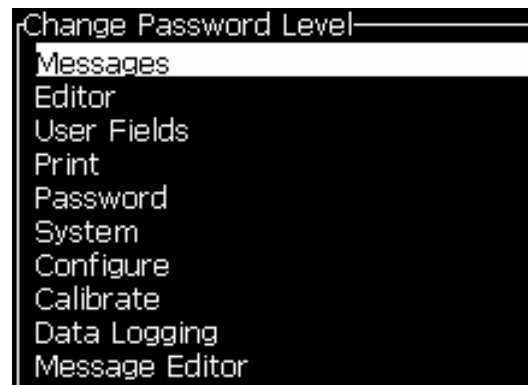
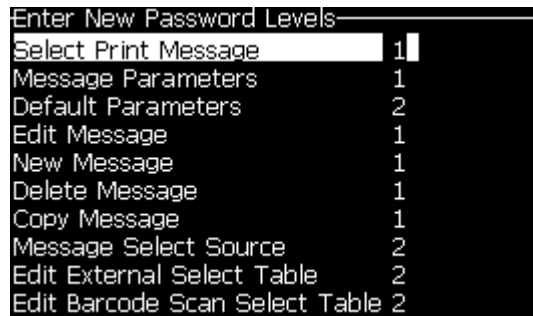

Figure 4-9: *Change Password Level*
Figure 4-10: Enter New Password Levels
- 1 Press **Alt+W** and select *Set Password Levels* (see Figure 4-8) to open the *Change Password Levels* screen (see Figure 4-9).
- 2 Select the menu (see Figure 4-9) that needs a change in the password level access and press the **Enter** key. The *Enter New Password Level* screen appears (see Figure 4-10 on page 4-6).